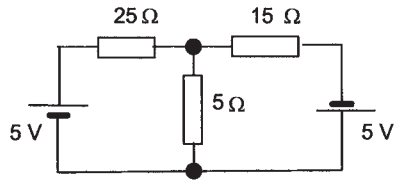

Figure 18.39 *Problem 4*
- 4 Using Thévenin's theorem, determine the current through the $5\ \Omega$ resistor in Figure 18.39.